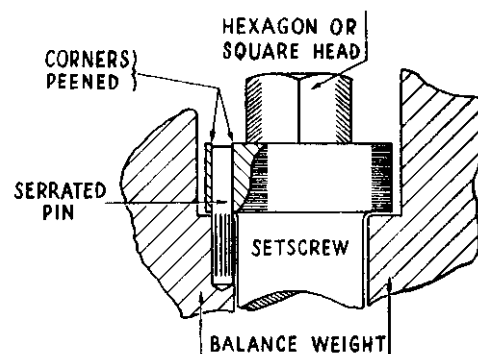

Fig. 27
Fig. 27 shows a section through the balance weight with the setscrew cut-away to reveal the locking arrangement.
- ix. Drive serrated pin in, see Fig. 27.